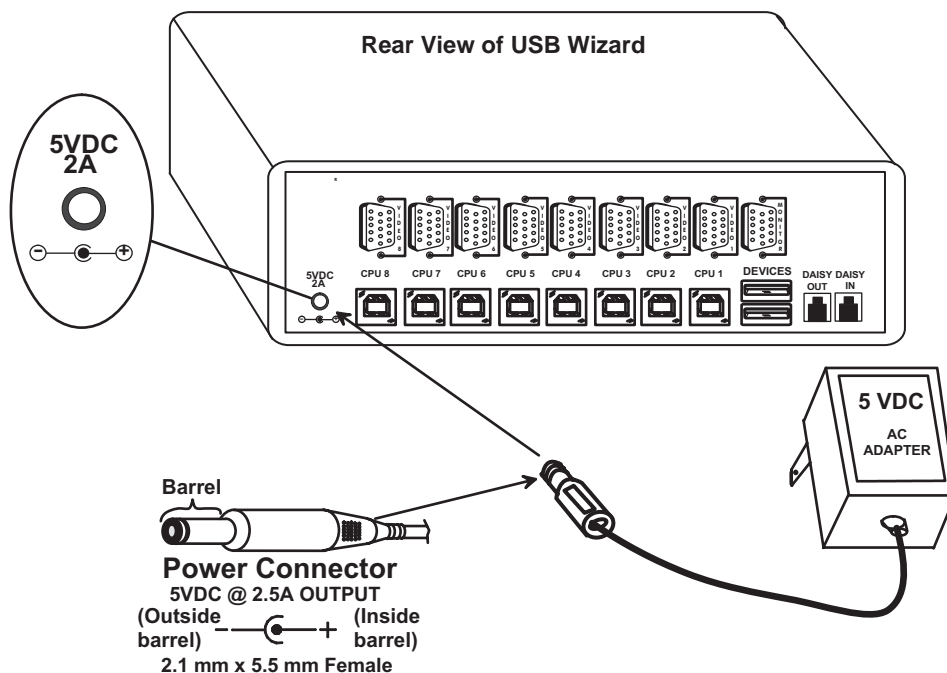

Figure 3- Connect the AC adapter
6. Power-up the USB Wizard. (See Fig. 3 below.)